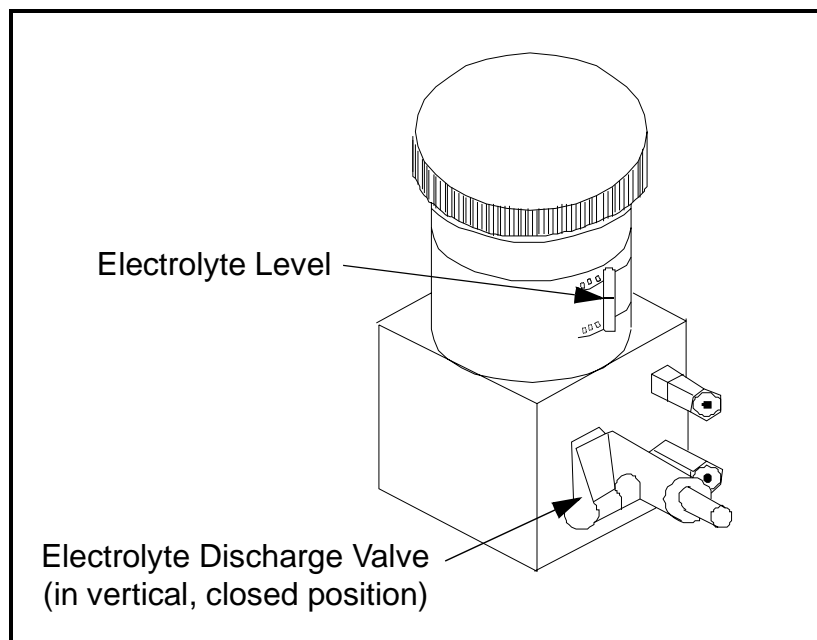

Figure 1-7: Delta F Oxygen Cell Electrolyte
1. Unscrew the top on the oxygen cell's reservoir. If you are using an explosion-proof cell, make sure its electrolyte discharge valve is in the vertical (closed) position (see Figure 1-7 below).
3. Using the min/max window on the oxygen cell, check the electrolyte level. The electrolyte should cover about 60% of the window (see Figure 1-7 above). The cell is now ready to be connected to the gas line.